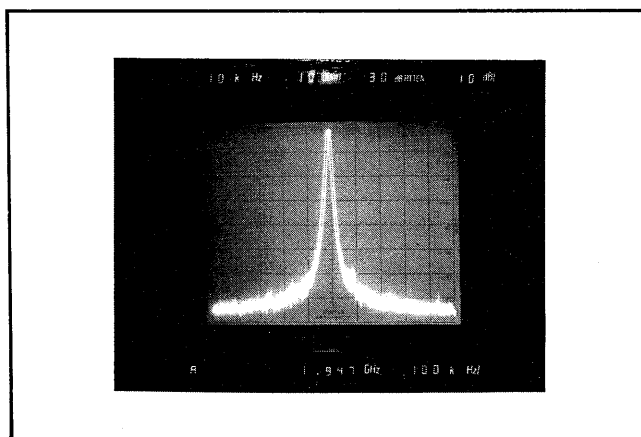

Figure 4-17. Noise Sidebands
- (c) Adjust TUNING to center the sweeper's fundamental frequency on the CENTER FREQUENCY graticule line, as shown in Figure 4-17.